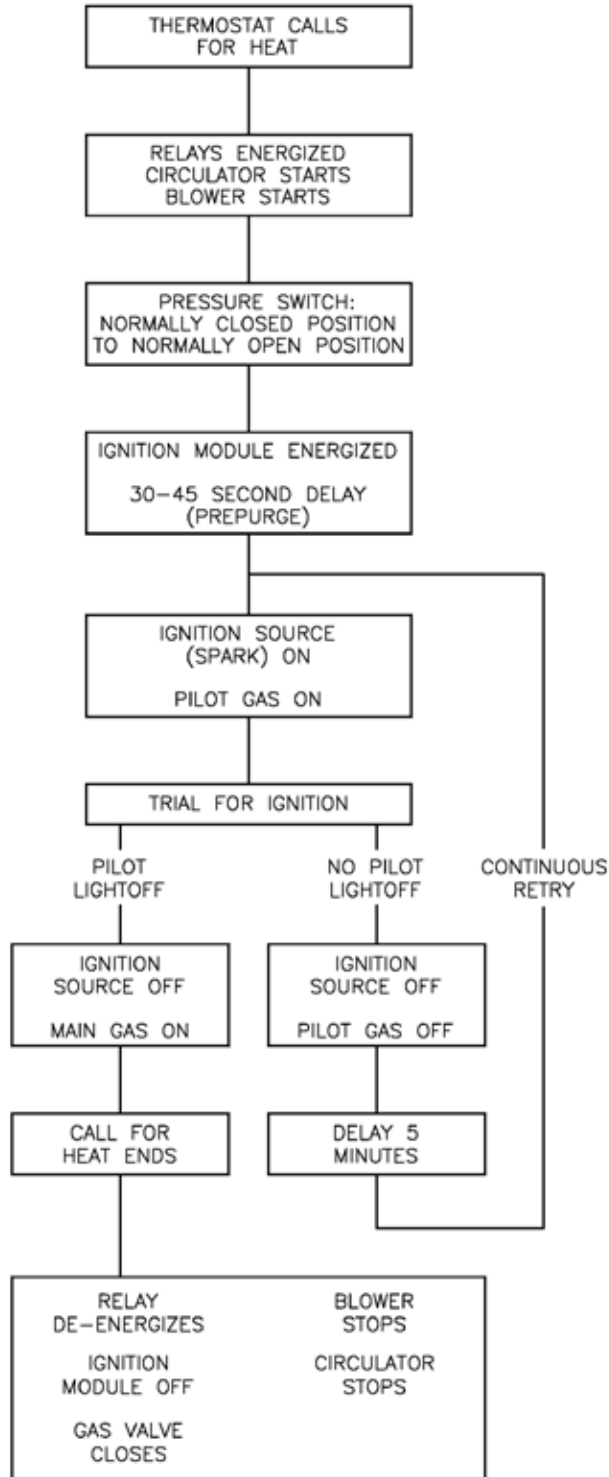

Figure 16: Sequence of Operation
- I. Sequence of Operation.** See Figure 16. If boiler fails to operate properly, see Troubleshooting Guides in Service Section.